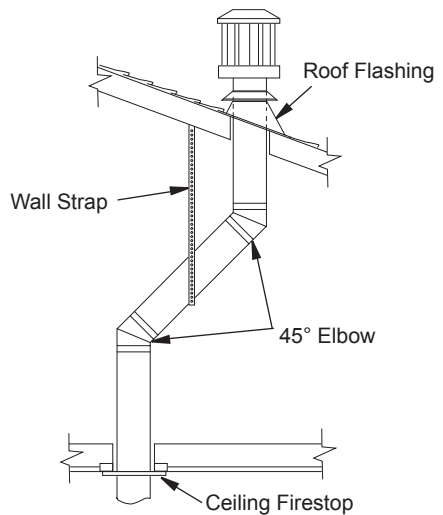

Figure 17 - Offset with Wall Strap and 45° Elbows
1. Determine route your vertical venting will take. If ceiling joists, roof rafters or other framing will obstruct venting system, consider an offset (see Figure 17) to avoid cutting load bearing members. *Note: Pay special attention to these installation instructions for required clearances (air space) to combustibles when passing through ceilings, walls, roofs, enclosures, attic rafters, etc. Do not pack air spaces with insulation. Also note maximum vertical rise of venting system and any maximum horizontal offset limitations.*
Note: If an offset is needed to avoid obstructions, you must support vent pipe every 3 feet. Use wall straps for this purpose (see Figure 17). Whenever possible, use 45° elbows instead of 90° elbows. The 45° elbow offers less restriction to the flow of flue gases.
5. Place flashing over pipe section(s) extending through roof. Secure base of flashing to roof and framing with roofing nails. Be sure roofing material overlaps top edge of flashing as shown in Figure 17. There must be a 1" clearance from vent pipe to combustible materials.